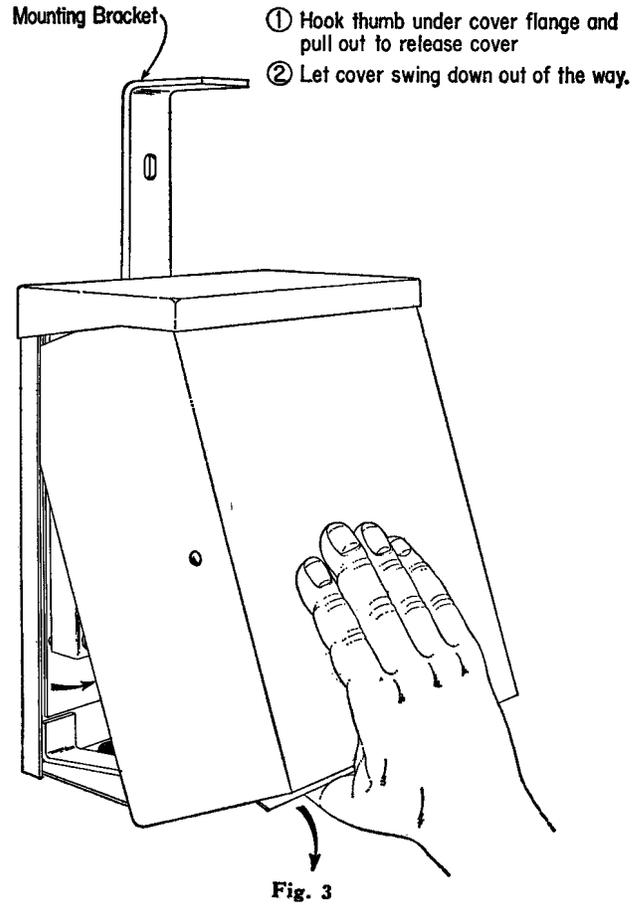

Fig. 3
3.02 Figs. 3, 4, 5 and 6 cover installation on a pole.